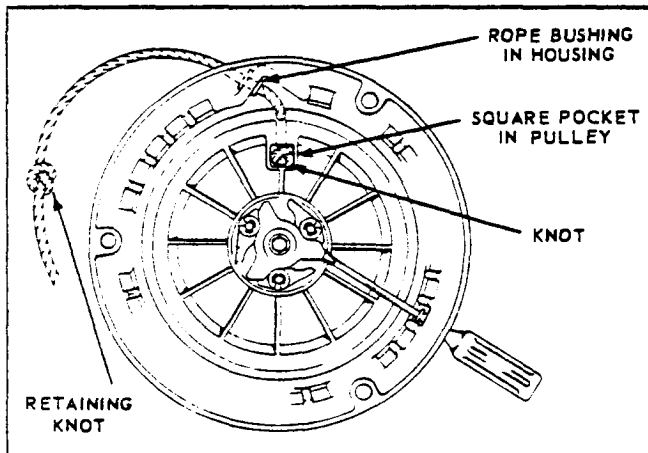

FIG. 5
tucked into the *square pocket* in the pulley, see Fig. 5. Allow the rope to recoil into the pulley about 2 feet, then tie a *retaining knot* in the rope to prevent it from being completely rewound into the pulley. Install the 'T' handle (128) on the rope, then the handle insert (129). Tie a knot at end of rope and tuck it into the handle insert, then assemble insert into the rubber 'T' handle. Remove the retaining knot and allow the rope to recoil completely.